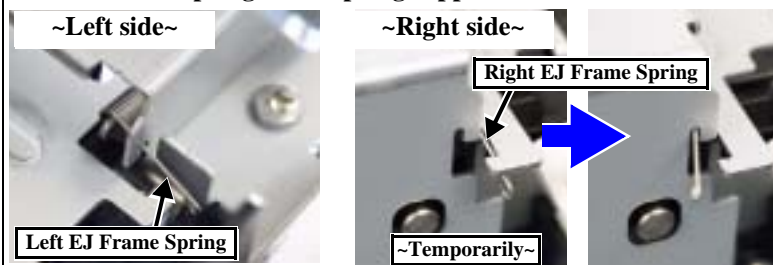

Figure 4-75. Removing the Front Frame
3. Release the harness of the CD-R sensor from the hook of the Eject Frame. (Fig. 4-75)
- After installing the Front Frame, confirm the engagement of the projections (x2), and then tighten the screws in the specified order. (Fig. 4-75)
- After installing the Cable Holder Frame, confirm the engagement of the projection, and then tighten the screw. (Fig. 4-75)